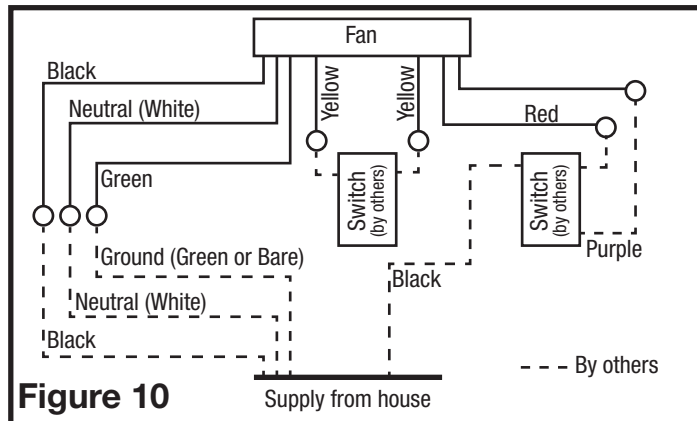

Figure 10
4. For two speed fans wired for continuous ventilation, connect the White wire of the fan to the White (Neutral) wire from the power source. Connect the ground wire from the house to the Green wire from the fan housing. Connect the Black wire of the fan to the Black wire (Hot) from the power source. The fan will operate on low speed continuously and boost to high upon a rise in humidity. Using a properly grounded switch, connect 1 yellow wire to each side of the switch. Closing the switch will change from normal to high speed. Using a properly grounded standard switch (not included) connect the Black wire from the supply to the switch. Connect the Red wire (light) from the fan housing to the other side of the top switch and connect the Purple wire (night light) from the fan housing to the other side of the bottom switch. A manual override switch (not included) can be used to provide a manual fan Off function (Figure 10).